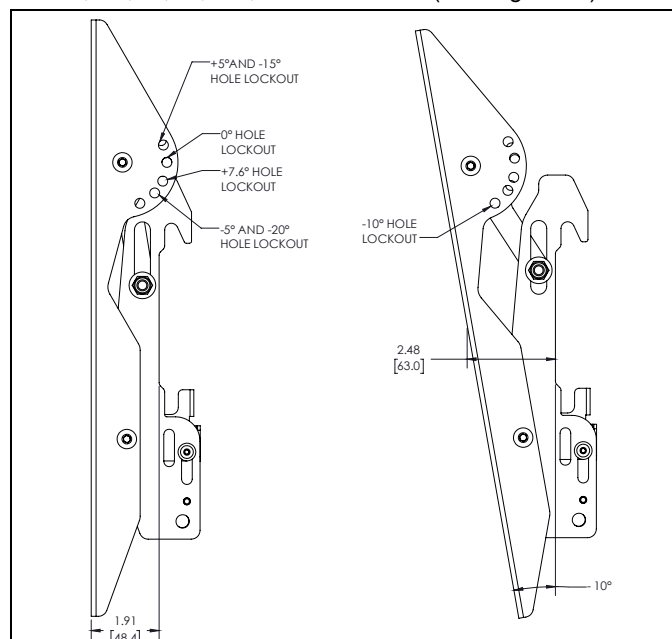
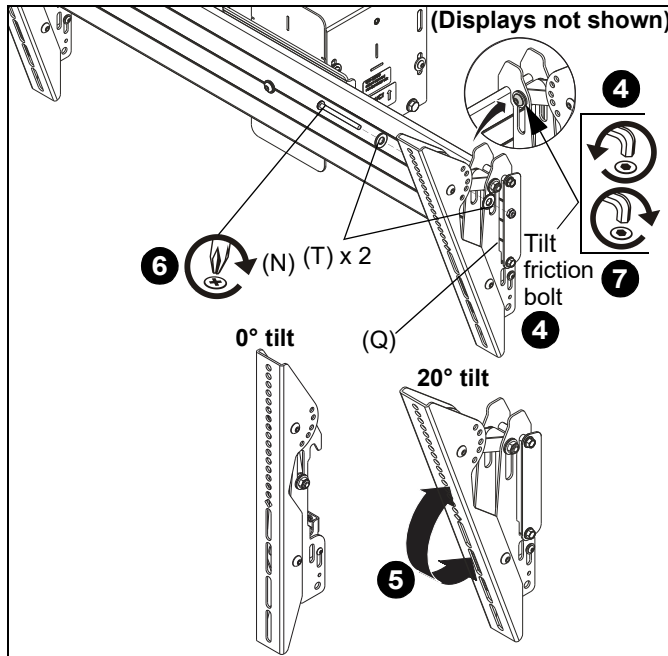

Figure 11
Figure 12
The interface brackets allow -7.6° to 20° tilt, and can be locked at -7.6°, -5°, 0°, 5°, 10°, 15° and 20° tilt. (See Figure 11)
6. If necessary, loosen button head tilt friction bolt (located on side of interface bracket). (See Figure 12)
7. Adjust tilt as required. (See Figure 12)
8. The tilt may be locked at -7.6°, -5°, 0°, 5°, 10°, 15° and 20° using one 1/4-20 x 2" Phillips head screw (N), one 1/4-20 lock nut (Q) and two 1/4" washers (T) per interface bracket. (See Figure 11) and (See Figure 12)
**NOTE:** Use of washers (T) is optional.